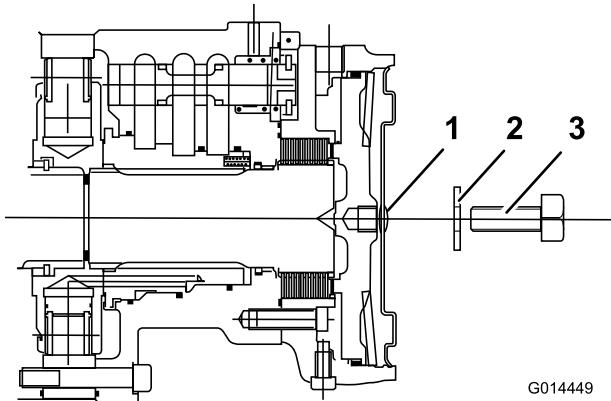

Figure 37
4. Install a M12 x 40 mm long setscrew with washer into the hole in the center of the motor end plate (Figure 37).
5. Tighten the setscrew into the threaded hole in the brake piston until the brake is released (Figure 37).
6. Identify the left front wheel motor disc brake assembly and repeat the previous procedure (Figure 37).